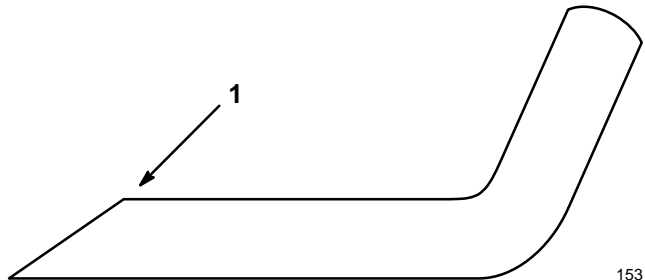

Figure 26
6. **SHARPENING BLADE**—Using a file, sharpen top side of blade and maintain original cutting angle (Fig. 26). The blade will remain balanced if same amount of material is removed from both cutting edges.